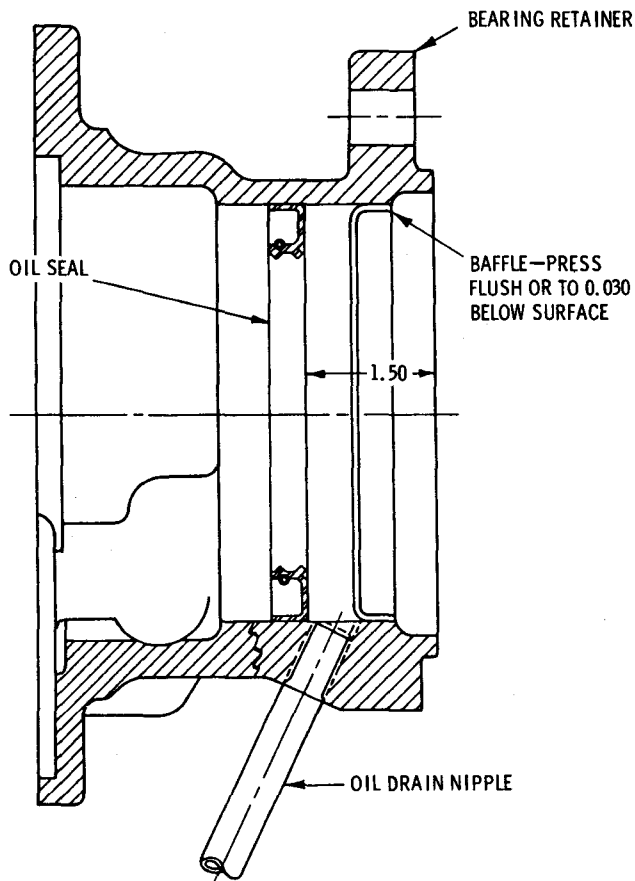

Fig. 6-6. Rear bearing retainer assembly dimensions
(1) Install the oil seal, baffle and oil drain tube into the output shaft rear bearing retainer as illustrated in figure 6-6. Note the position of the spring-loaded lip of the oil seal.